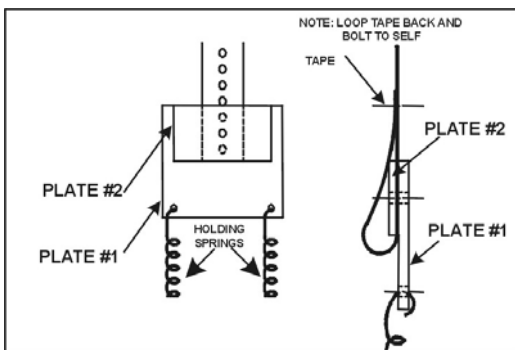

Figure 1-22
- Double over a short portion of the end of the tape and secure the bottom portion of the tape between plate #1 and plate #2. Cut off and discard remaining tape. [See Figure 1-22.]